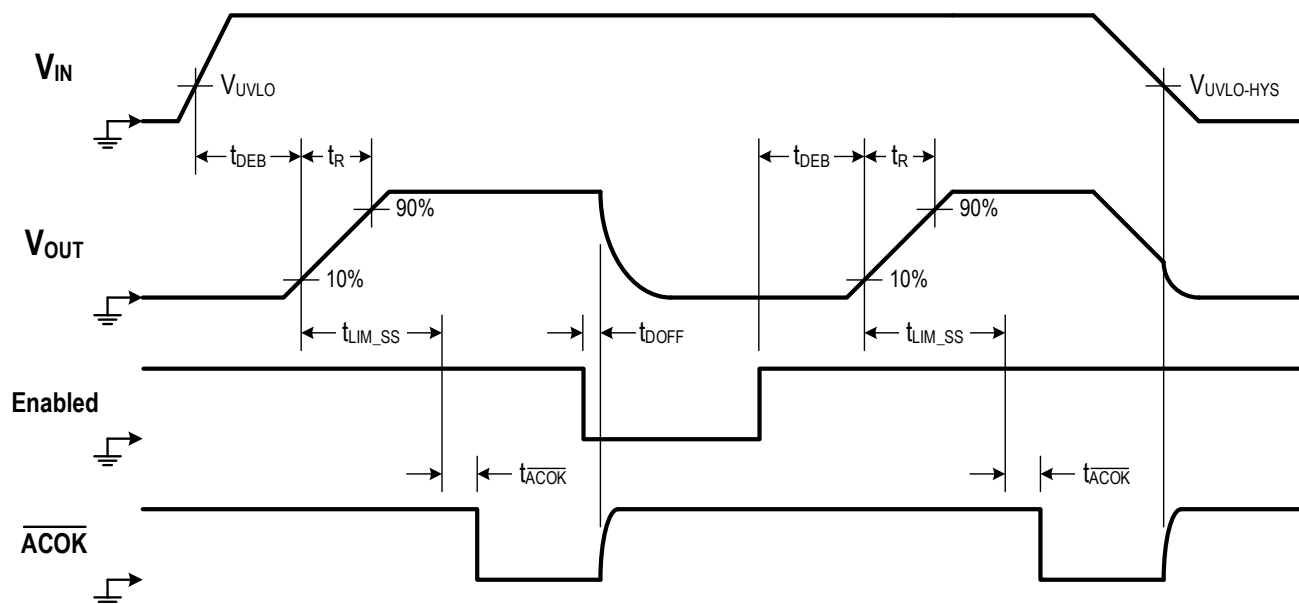

Figure 1. UVLO, Soft-Start and Turn-Off Timing Diagram
### Soft-Start (SS) Specifications (see Figure 1)